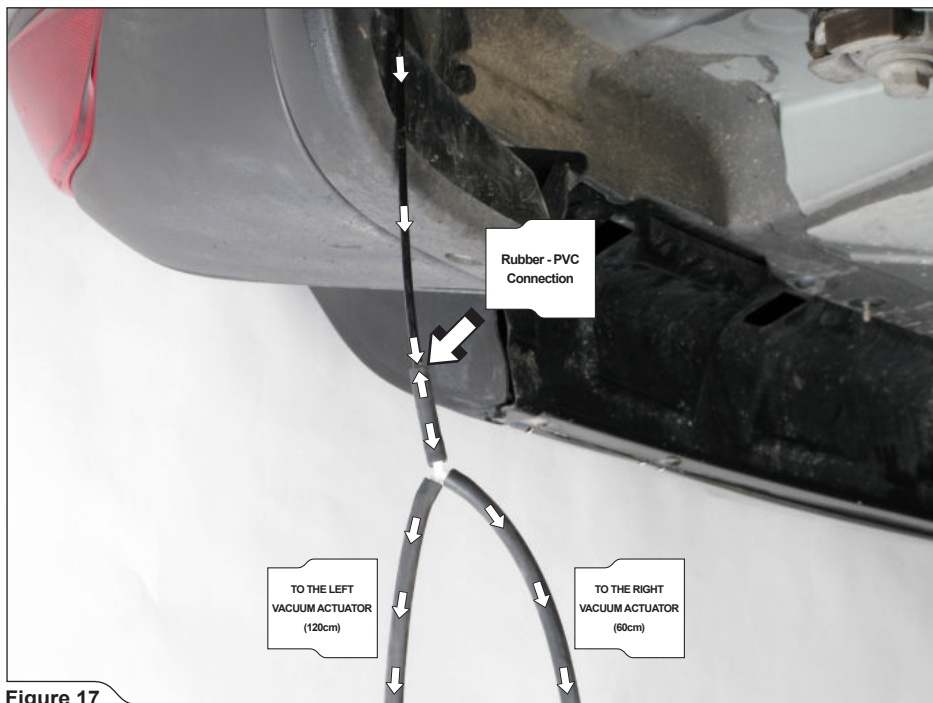

Figure 17
13. Link the Akrapovič 5cm rubber vacuum hose and plastic Y piece distributor to the PVC vacuum hose. Then connect the 120cm and 60cm rubber hoses to a Y piece distributor, as shown (Figure 17).